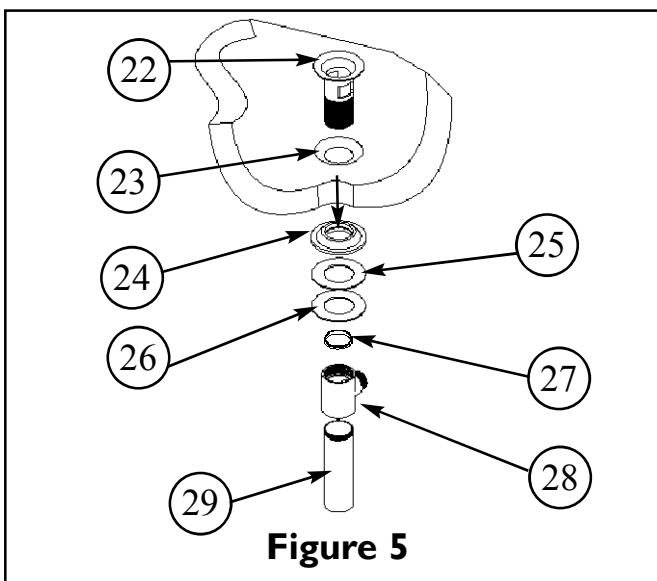

Figure 5
6. Remove drain PLUG (17) from FLANGE (18). Place FLANGE (18) and white WASHER (19) through sink drain opening. (Clear silicone may be used in place of white washer.) From bottom side of sink, place cone shaped rubber WASHER (20) onto FLANGE (18) and slide up against sink bottom. Note: Cone portion of WASHER (20) to face upward. Next slide on clear flat WASHER (21) and secure with flange NUT (22). Place clear WASHER (23) into drain BODY (24) & tighten to FLANGE (18). Apply thread sealant to TAILPIECE (25) and attach to drain BODY (24). Attach TAILPIECE (25) to p-trap drain (not included). See Figure 5.